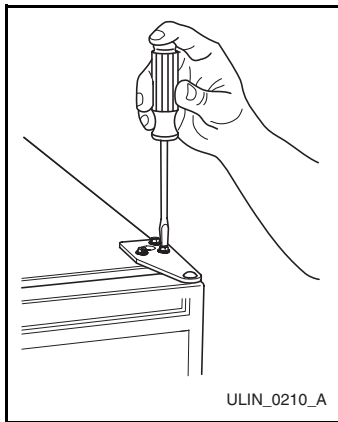

Figure 14
1. Loosen (do not remove) top (**Figure 14**) and bottom hinge screws.